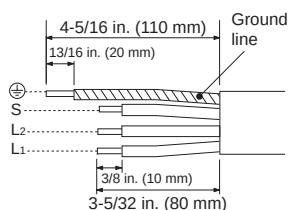

Fig. 10-3-9
8. Take out the wire to the front and fix it to the terminal block. Be careful not to make mis-wiring (Fig. 10-3-9)